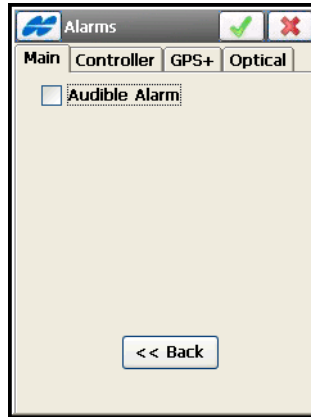

Figure 4-99. Alarms
1. Check and enable the *Audible Alarm* field to enable a sound for alarms in the Controller, Receiver, or Total Station (Figure 4-99 on page 4-79).